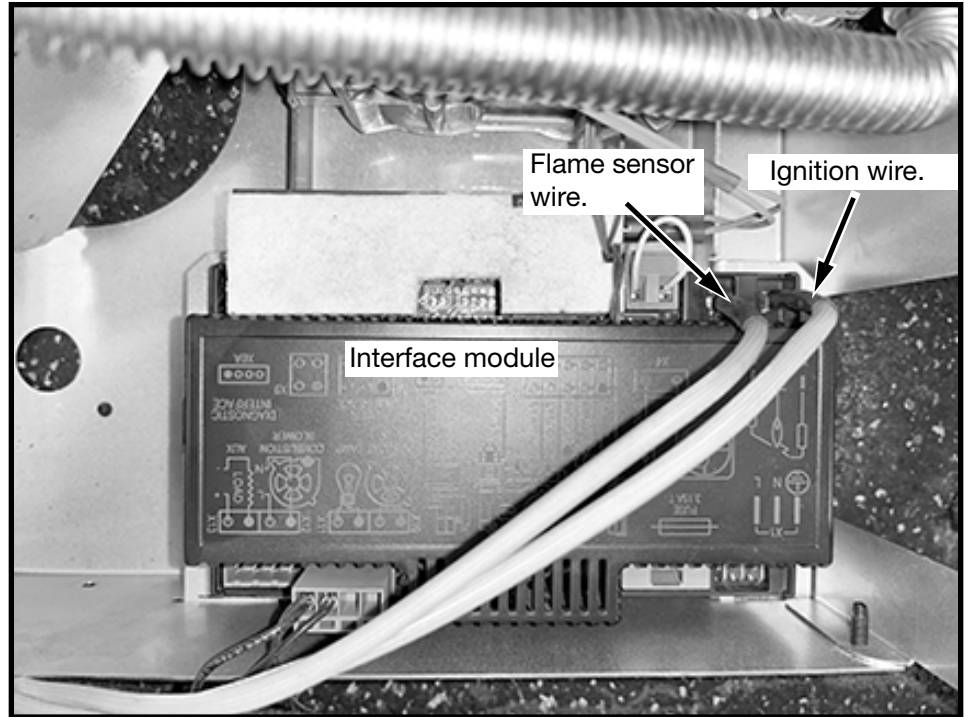

Figure 7: Interface module.
6. Attach the ignition and sensor wires to the module (Figure 7)